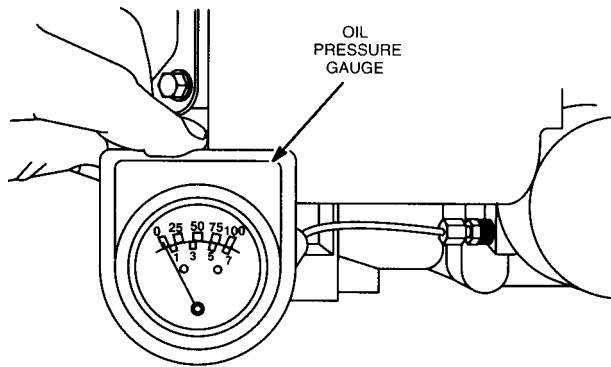

Fig. 6 - Checking Oil Pressure
3. Install oil pressure gauge, Fig. 6.